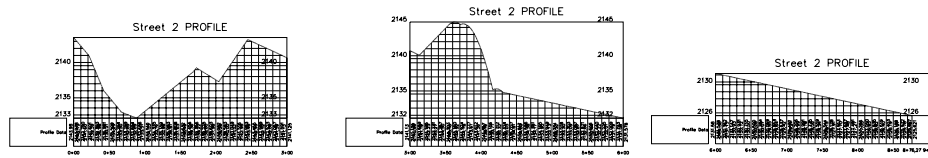

Figure 6-58 The Multiple views for the *Street 2* profile
12. Choose the **OK** button; the dialog box is closed and the profile views will be clipped, as shown in Figure 6-58.